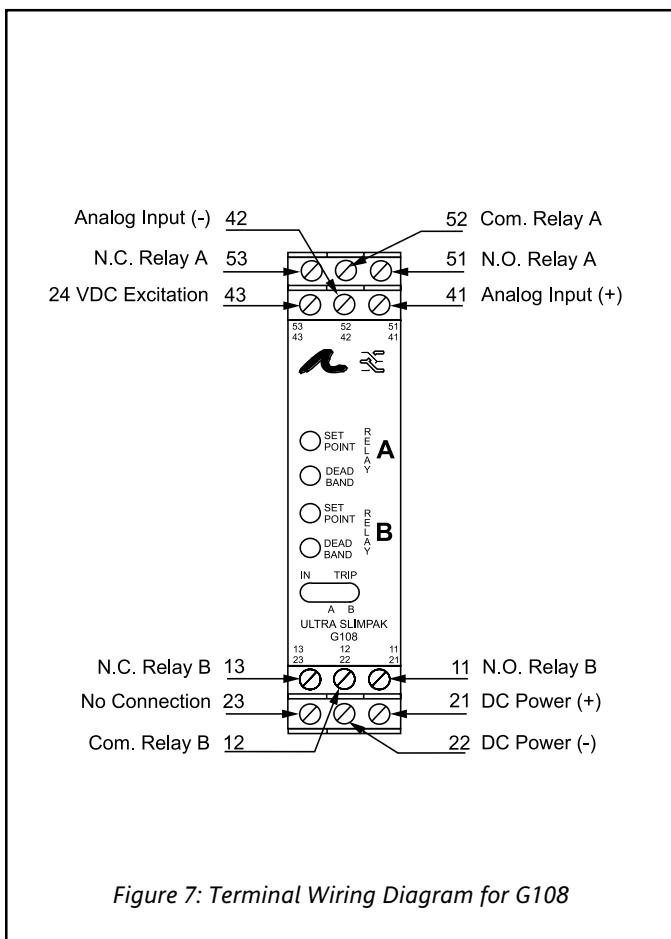

Figure 7: Terminal Wiring Diagram for G108
1. After configuring the DIP switches, connect the input to a calibrated DC source and apply power. Refer to the terminal wiring (Figure 7).